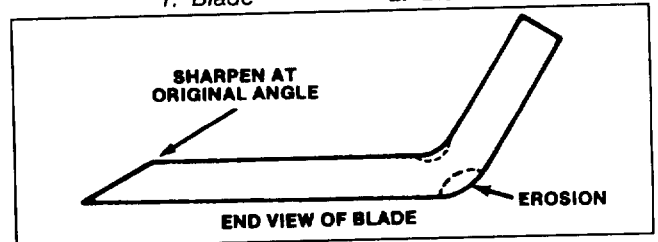

Figure 16
Check cutter blade every time rider is tipped on end. If bolt holding blade is loose, tighten it to 45-60 ft-lb. If blade or sail (Fig. 16) at end of blade is worn, eroded, or cracked, replace the blade. Replace the blade if it is bent or out-of-balance. Always use genuine TORO replacement blade to ensure safety and best performance. NEVER USE A WILL-FIT REPLACEMENT BLADE.
7. Using a file, sharpen cutting edge at both ends of the blade (Fig. 16).